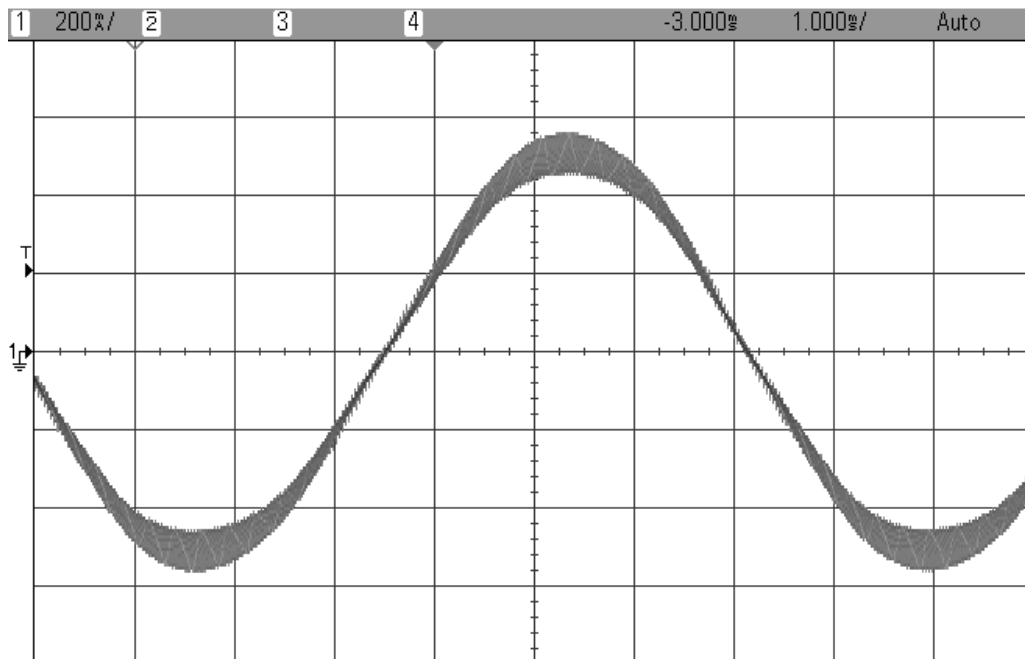
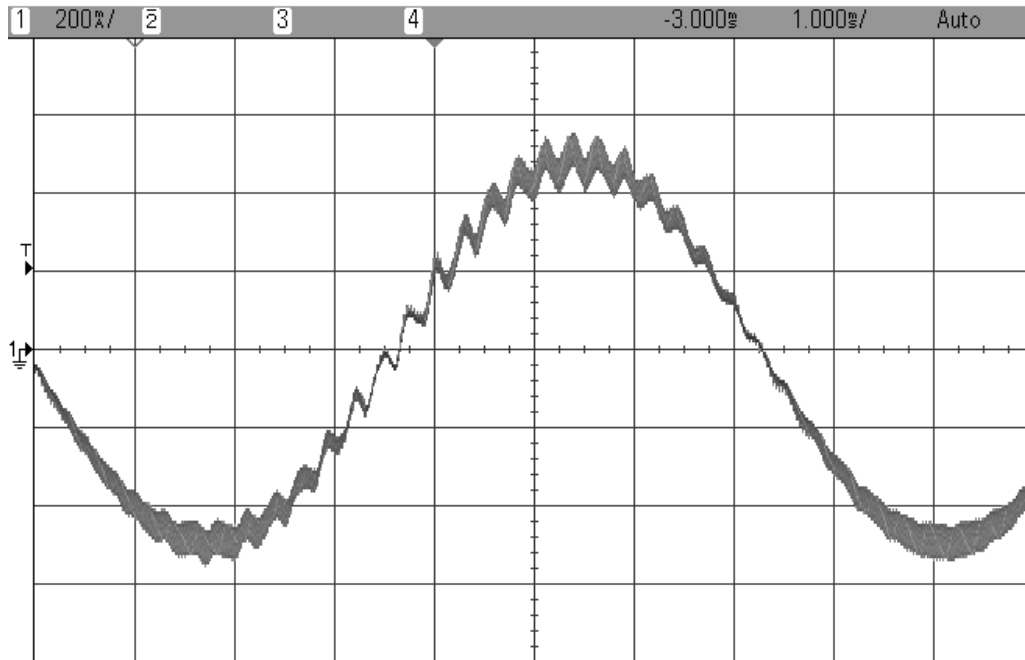

Figure 21:  $K_p^{\text{series}}$  setting that has been calculated at 1/20 of the bandwidth.
Figure 22:  $K_p^{series}$  setting that is too high resulting in the controller becoming unstable.
As the bandwidth gets wider, the sampling delay has more of a negative effect on the phase margin of the controller and causes the control loop to become unstable. Figure 21 is a plot of the motor current waveform with a stable  $K_p^{\text{series}}$  setting. As the  $K_p^{\text{series}}$  is increased, the phase margin of the control loop becomes smaller. After a while the control loop is unstable and starts to oscillate as shown in Figure 22. The current controller gain should not be set to this high of a value. When a current loop instability occurs, lower the  $K_p^{\text{series}}$  gain until the current waveform is like the one in the following figure.
- When the motor makes the high pitch noise, its current waveform looks like that in Figure 22.